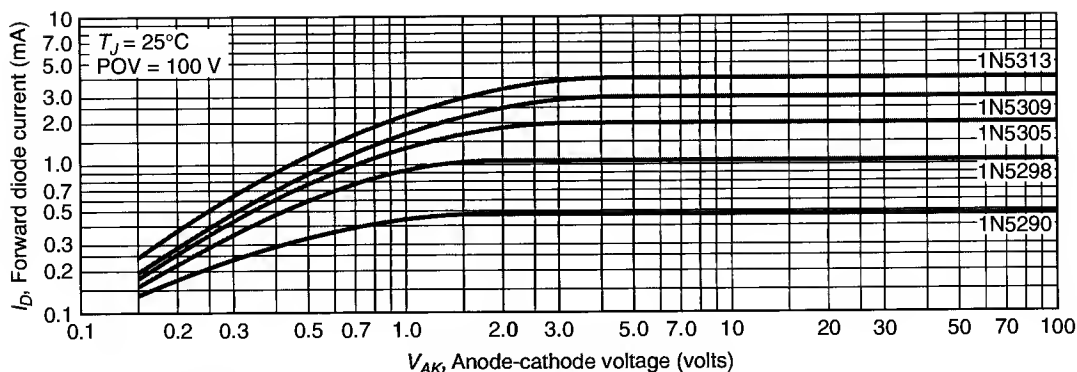

FIGURE 5.10 Current regulator forward operating curves. (Copyright of Semiconductor Component Industries, LLC. Used by permission.)
Constant-current diodes are drastically different from any of the diodes you have seen so far. As stated earlier, a constant-current diode *maintains a relatively constant device current over a wide range of forward operating voltages*. As such, a constant-current diode is often referred to as a **current regulator diode**. The forward operating curves for five current regulator diodes are shown in Figure 5.10.
When a conventional *pn*-junction diode is forward biased, V_F is approximately 0.7 V, and I_F is determined by the components in the diode circuit. This does not hold true for the constant-current diode. As the forward curve in Figure 5.10 shows, the value of V_F for a constant-current diode can have a wide range of values, in this case anywhere from 0.1 to 100 V. At the same time, the value of I_F for the constant-current diode is limited by the diode itself, not by the components in the diode circuit. For example, the 1N5290 curve shows that the value of I_F for the device increases as V_F increases from 0.15 V to approximately 1.5 V. At that point, the diode regulates the value of I_F to around 500 μA (0.5 mA).
For reasons that you'll see in a moment, we start our coverage of the *electrical characteristics* with the last rating given, the **maximum limiting voltage (V_L)**. The V_L rating indicates *the voltage at which the diode begins to regulate current*. For the 1N5290, the value of V_L is 1.05 V. This is lower than the value of V_L that we obtained from the current versus voltage graph in Figure 5.10 because it is measured at $0.8I_P$.
The **regulator current (I_P)** rating is the *regulated value of forward current for values of V_F that are between V_L and POV*. As long as the forward voltage is kept between the rated values of V_L and POV, the current through the diode is maintained at the value of I_P . Note that the *nominal* value of I_P for the 1N5290 is shown to be 470 μA (0.47 mA). This is very close to the value provided by the current versus voltage graph in Figure 5.10.
14. Based on the curves in Figure 5.10, what is the relationship between the rated forward current (I_D) of a current regulator diode and the range of V_{AK} over which I_D is constant?